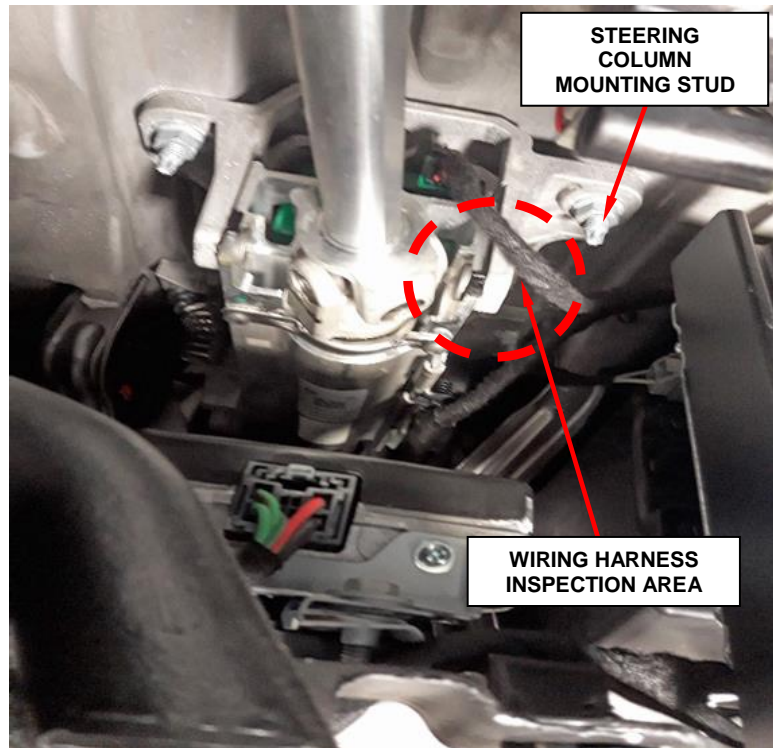

Figure 3 – Steering Column Shaft
3. Inspect the Electronic Steering Lock (ESL) module wiring harness (red dashed area) for any wire abrasion or damage (Figure 3).
6. Locate the steering column mounting stud (Figure 3).